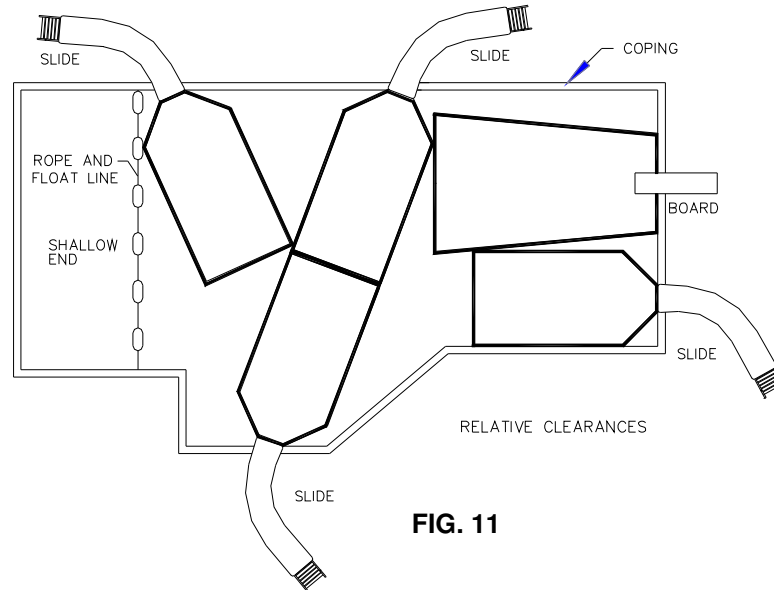

FIG. 11
- C. The minimum clearance area of a slide or diving board shall not intersect any coping or rope and float line as shown in FIG. 11. The minimum clearance area of a slide or diving board may intersect each other provided that they are not used simultaneously.